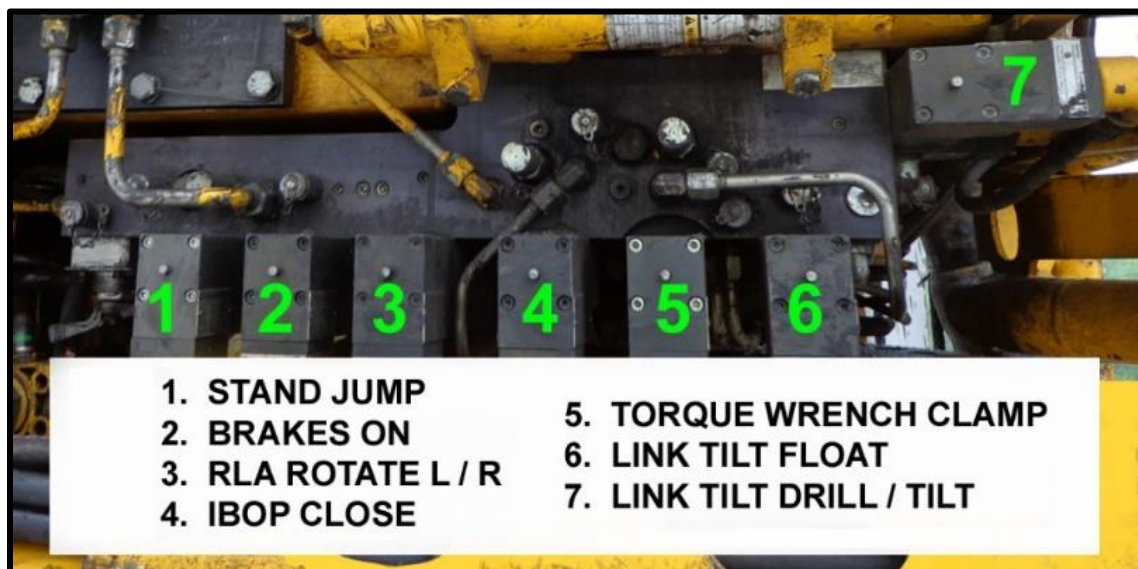

Figure 9.22 - Main Hydraulic Manifold with SOV's Attached
- a. Oil under pressure exits RV1, providing and maintaining balanced pressure with the (main) System Accumulator (SA), which is simultaneously interconnected to the (P) Pressure inlet of all solenoid valves. *Note: at some solenoid valves, the pressure fluid's path is blocked until actuation, as illustrated on Page 127, Figure 9.22. At other SV's, the neutral position allows flow through the solenoid until actuation changes the fluid path. For this reason, in one example, system pressure can be checked at Rig Floor level, on the small manifold mounted on the Grabber Assembly. If no functions are being used, oil continuously flows through the manifold, exiting through Port 'TR' (Tank Return) through CTR, the Tank Return Check Valve. It enters the hydraulic fill line and circulates back to tank in the way that was already explained during servicing / adding oil.*